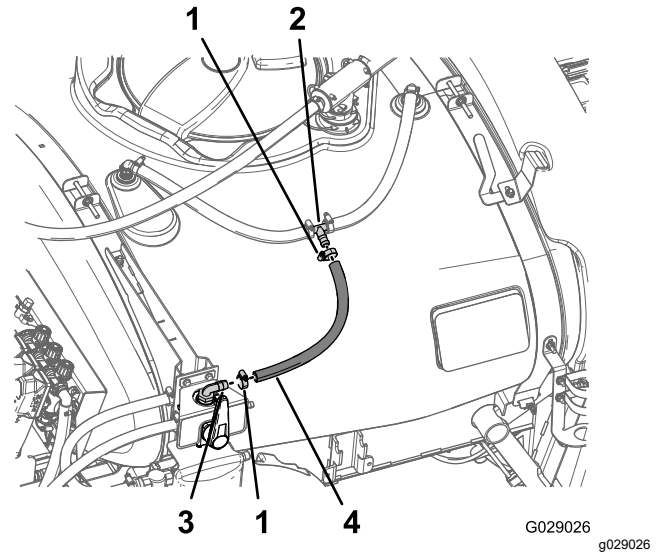

Figure 46
5. Assemble a hose 1.9 x 61 cm (3/4 x 24 inch) over the straight-barbed fitting at the forward side of the 4-way valve (Figure 46).
6. Secure the hose to the fitting at the valve with a hose clamp (Figure 46).
7. Assemble the free end of the hose onto the barbed T-fitting and secure the hose to the fitting with a hose clamp (Figure 46).